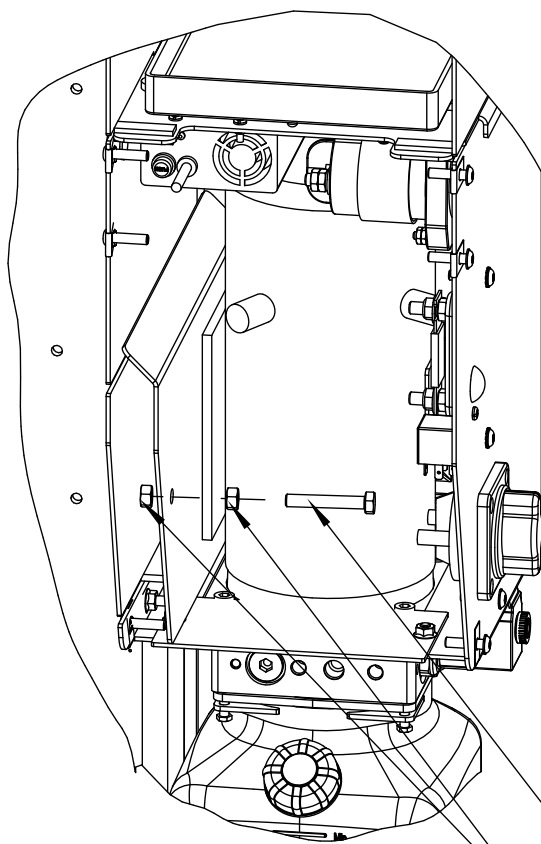

Fig. 11b
- e. Fasten the included 5/16"-18NC x 1-1/2" full thread bolt and (2) 5/16"-18NC hex nuts to the splash shield as shown in figures 11b & 11c.